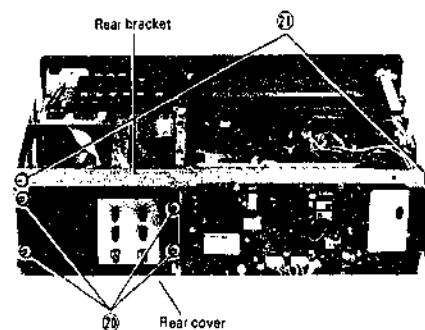

Fig. 19
- ⑬ 4 screws. (Fig. 19)
- ⑭ 2 screws. (Fig. 19)